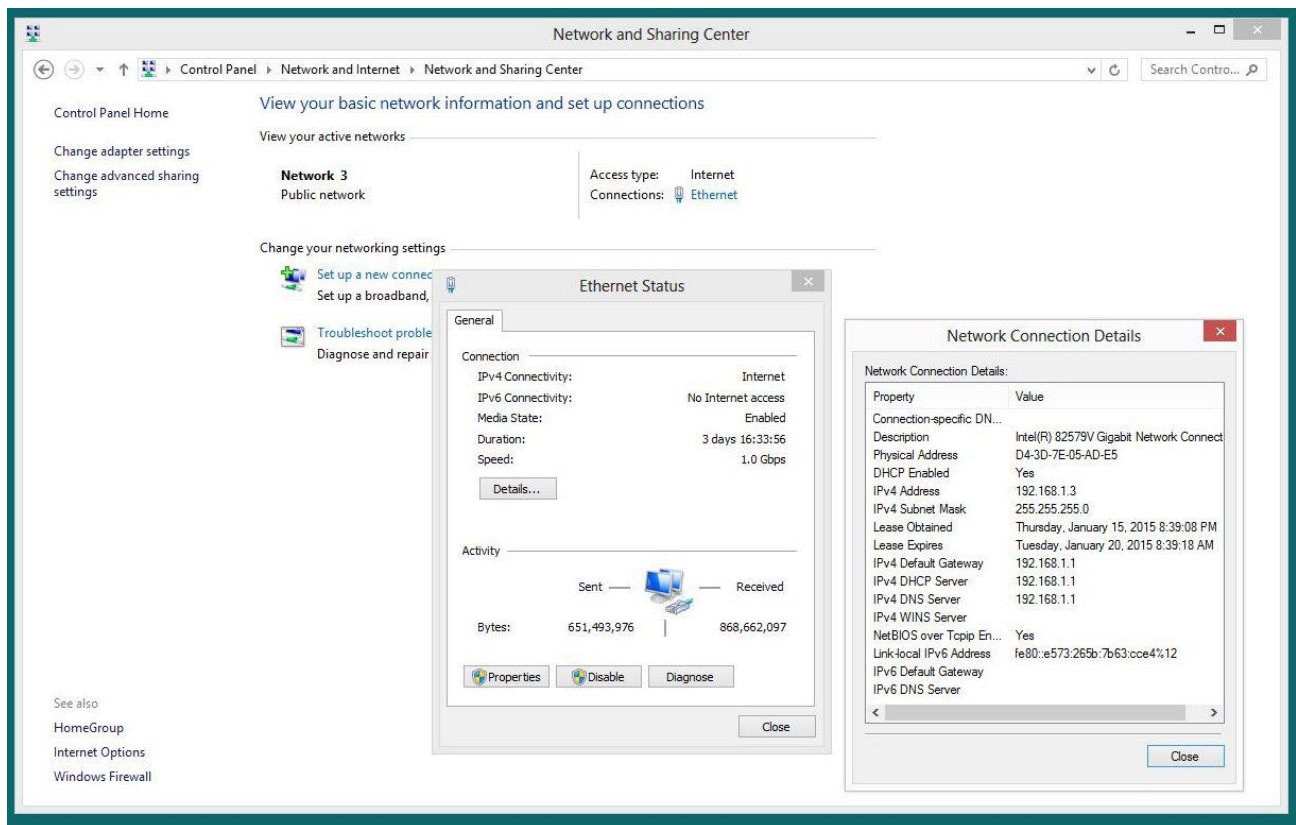

FIGURE 4.2 – PC/LAPTOP LAN INFORMATION
- 2) You will see the Ethernet IP and subnet mask. Our IP address is 192.168.1.3. Our subnet mask is 255.255.255.0 and Default Gateway is 192.168.1.1. Your information will be different. (SEE FIGURE 4.2)